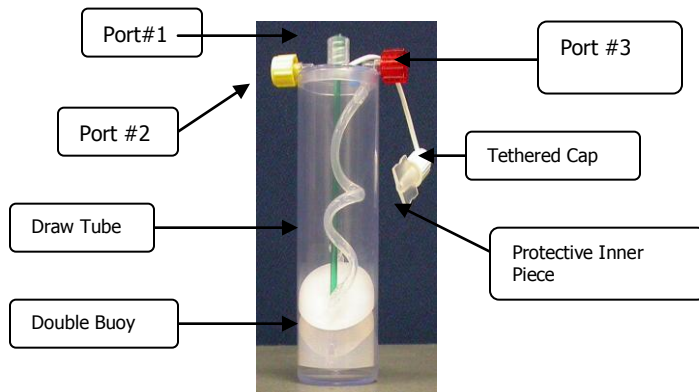

Figure 1
#### **PRP PREPARATION GPS III standard size separator (Figure 1) produces 6ml of PRP**
**PRP PREPARATION: GPS III Mini Separator (Figure 1), produces 3ml of PRP**